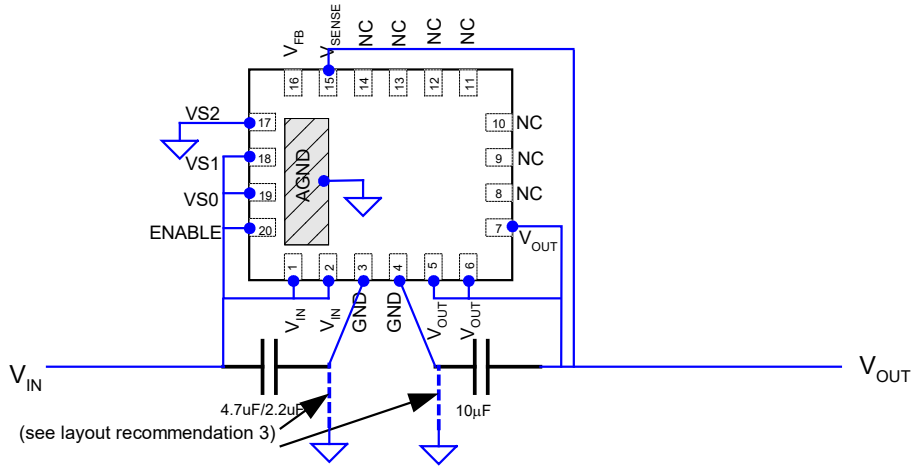
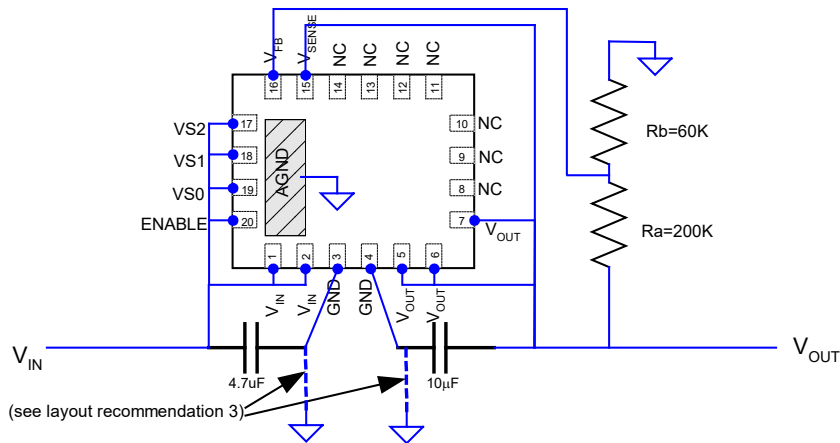

Figure 6. Example application,  $V_{out}=1.2V$
Figure 7. Schematic showing the use of external divider option,  $V_{out} = 2.6V$
**Recommendation 3:** Multiple small vias (0.25mm after copper plating) should be used to connect ground terminals of the Input capacitor and the output capacitor to the system ground plane. This provides a low inductance path for the high-frequency AC currents, thereby reducing ripple and suppressing EMI (see Fig. 5, Fig. 6, and Fig. 7).
Figure 6 shows an example schematic for the EP53x2QI using the internal voltage select. In this example, the device is set to a  $V_{OUT}$  of 1.2V ( $VS2=0$ ,  $VS1=1$ ,  $VS0=1$ ).
Figure 7 shows an example schematic using an external voltage divider.  $VS0=VS1=VS2= "1"$ . The resistor values are chosen to give an output voltage of 2.6V.